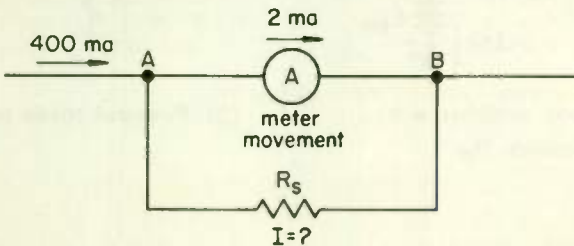

Fig. 4
4. A basic meter movement can be used to measure a higher value of current by connecting a resistor (called a shunt) in parallel with the meter movement. The shunt resistor carries most of the current around the meter. What is the value of current through the shunt resistor R_S in the meter circuit shown in Fig. 4?